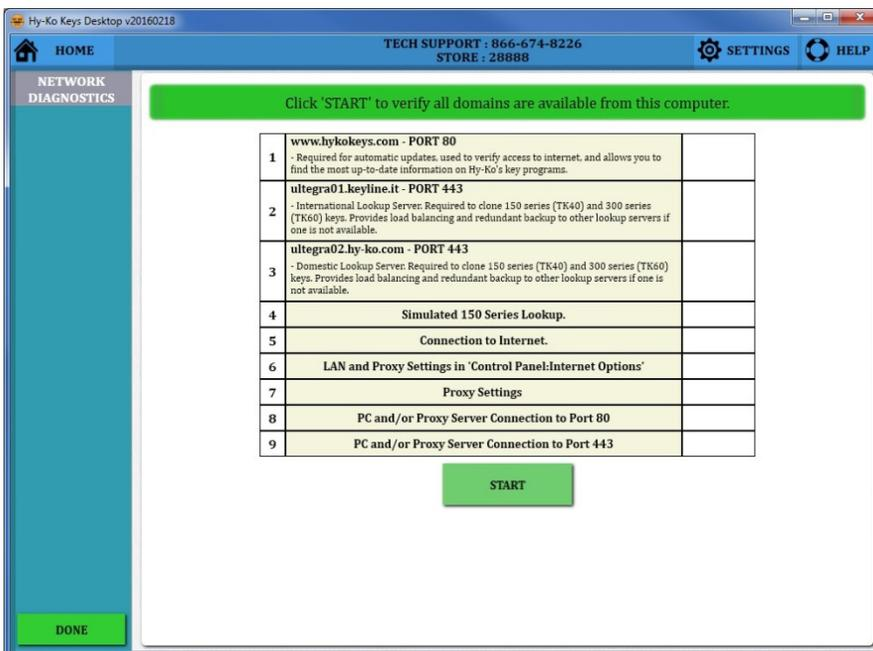

fig. 123
- The ‘NETWORK DIAGNOSTICS’ button will allow you to run a diagnostic analysis of your computer network with respect to the needs of this software program (see fig. 123).